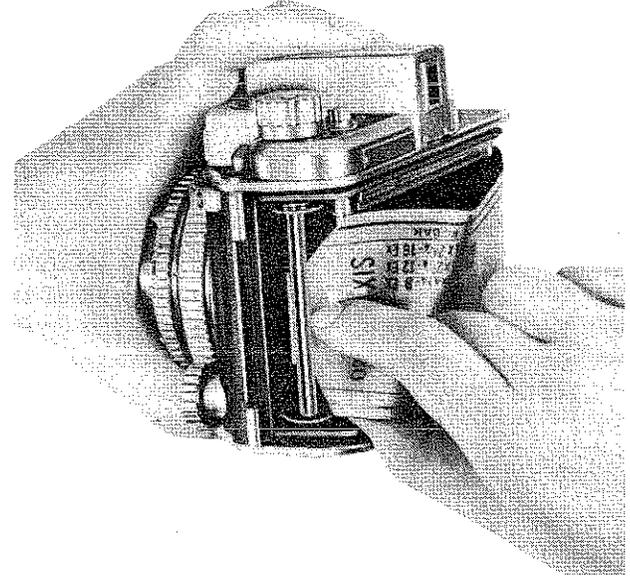
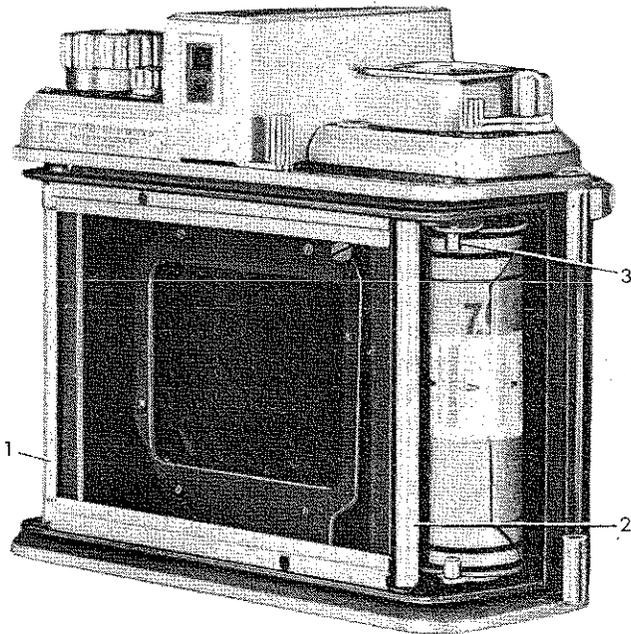

Figure 10—Threading Film
Figure 9—Inserting Roll of Film
(3) Insert the roll of film in the recess which has a spring bracket, with the spool resting under the two projections on the sides of the bracket (figure 9).
(4) Break the seal and pass the protective paper over the spool rollers (3, figure 9), the film roller (2, figure 9), and the safety control driving shaft assembly (1, figure 9). Thread the end of the paper into the longer slit in the empty spool as far as it will go. (See figure 10.)